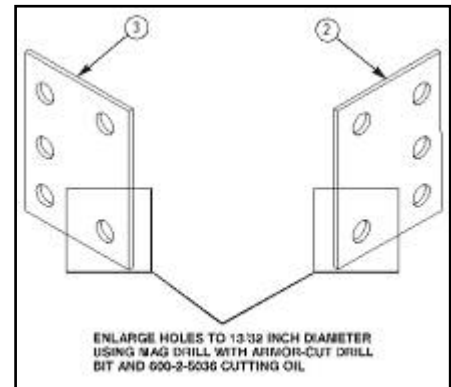

Figure 9b.
2. Enlarge one mounting hole in each existing A-pillar to rocker gap plate (2 and 3) to 13/32 inch diameter, using mag drill with armor-cut drill bit and 600-2-5036 cutting oil. Refer to figure 9b.